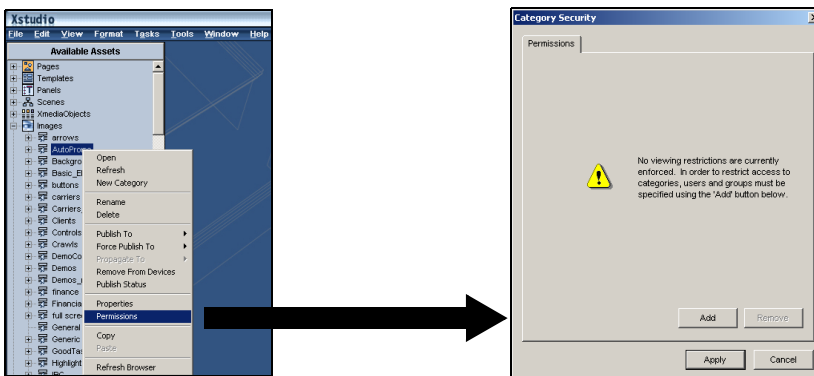

Figure 19-49. Select the Permissions command to restrict access to the selected asset category
1. With an Vertigo Suite application open (i.e. Xplorer, Xstudio, Xbuilder...etc.), right-click on the asset category from the Asset Browser that you want to restrict access to. Select the **PERMISSIONS** command from the context menu (figure 19-49).